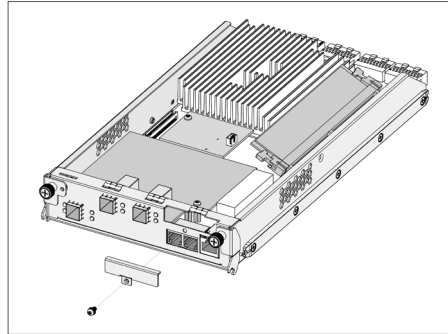

Figure B-5, Loosening the Screw
1. Loosen the screw and remove the dummy cover from the rear side of RAID controller caddy, as shown in Figure B-5.